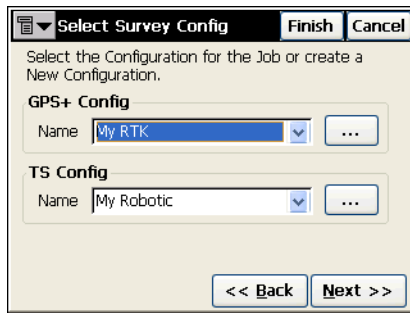

Figure 3-4. Select Survey Config
4. On the **Select Survey Config** screen (Figure 3-4), select the Survey Configuration, for both the GPS+ and TS. A Survey Configuration is a set of parameters that describe work conditions and depend upon the instrument used for the survey. The last open configuration will initially display.